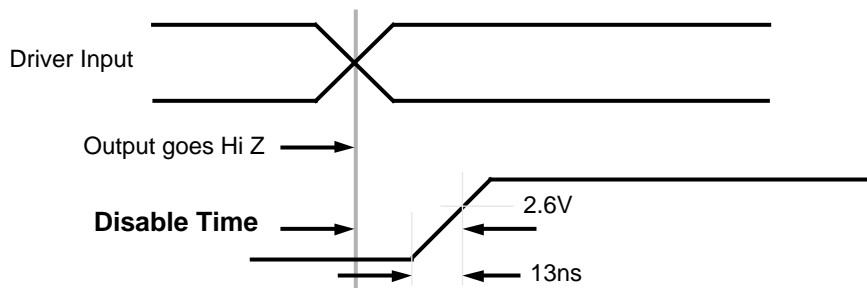

Figure 53: Disable Times Specification
- (1) **MCLK** timings measured between clock edges at 50% of Vdd.
- (2) The timings of these buses are measured to TTL levels.
- (3) Tabth1 is a requirement for ARM610. To ensure compatibility with future processors, designs should meet Tabth2. Tabth2 is not tested on ARM610.
- (4) See Figure 53: Disable Times Specification.
- (5) See 13.2.2 Tald Measurement.